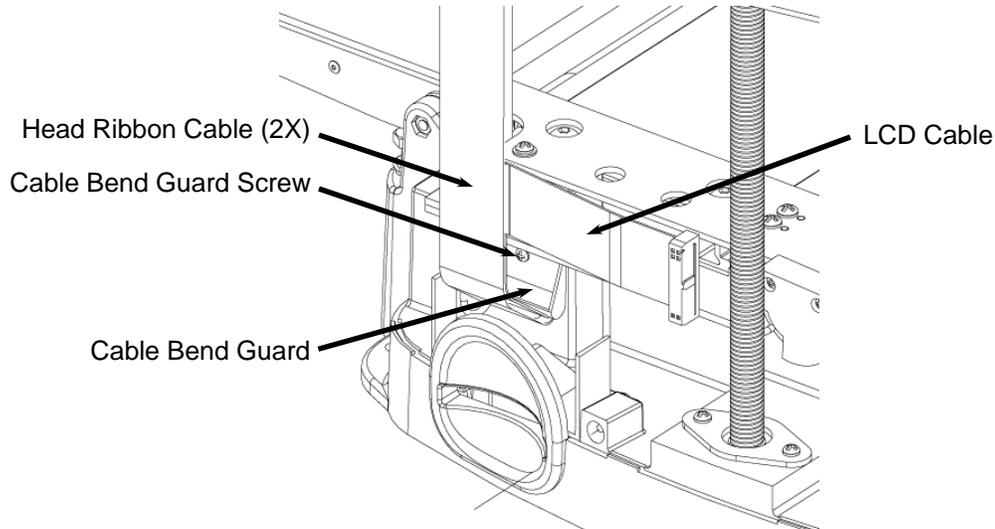

FIGURE 7: REMOVING THE RIBBON CABLE GUARD
6. **Replace the ribbon cable bend guard.** Place the ribbon cable bend guard back into position and insert the screw. Make sure that the three ribbon cables are looped underneath the guard as shown in Figure 7 and that the cables are not folded.